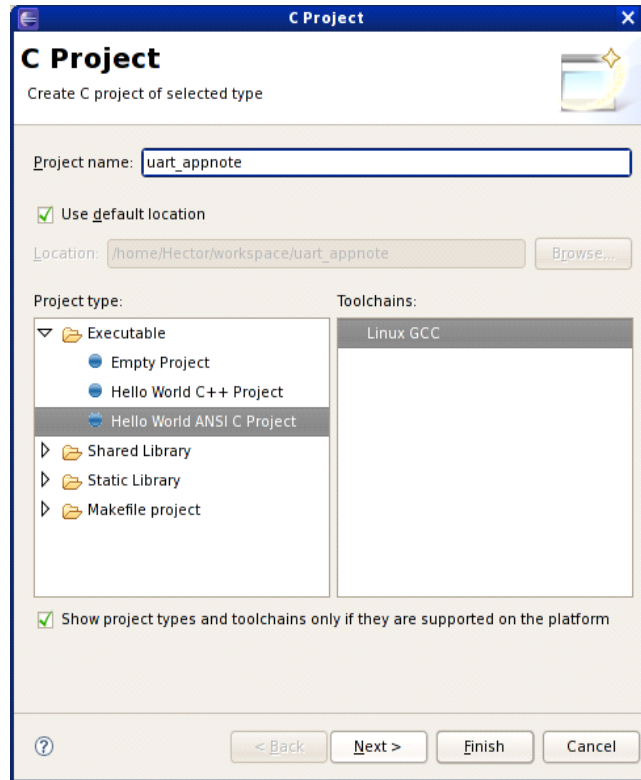

Figure 2. New Project Settings
4. Select the Hello World ANSI C template, and name the project `uart_appnote` as shown in Figure 2.
5. For the toolchain settings, select Linux GCC as shown in Figure 2 (later, this is modified manually). Click Next and enter the user name and copyright notice. Click Next again and ensure that the two default configurations (Debug and Release) are checked. Once these options are set, click Finish.